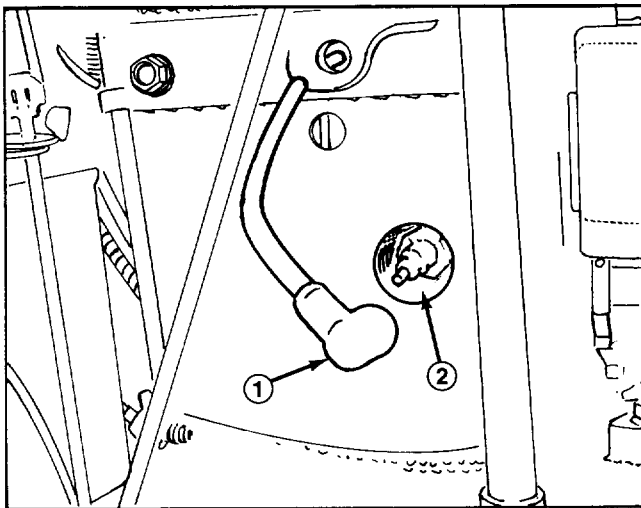

Figure 13
2. Pull wire off spark plug and remove plug from cylinder head (Fig. 13).